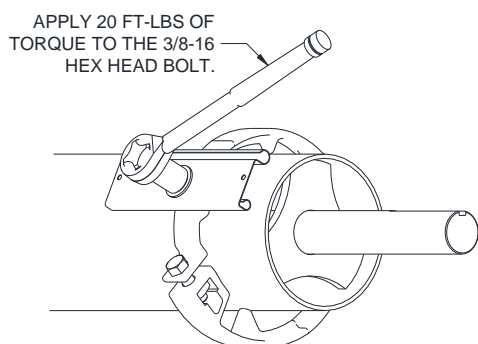

Figure 8.2 – Fastening Section Attachment with Bolt
6. Uncoil the curtain enough for the fastening sections to reach the attachment points on the shaft. Fasten them by aligning the fastening section with the hole in the ring or shaft respectively, and fasten using the provided hardware (see **Figures 8.2 and 8.3**). If the curtain is too heavy to uncoil by hand, use the method described in the following step to get the fastening sections in position.